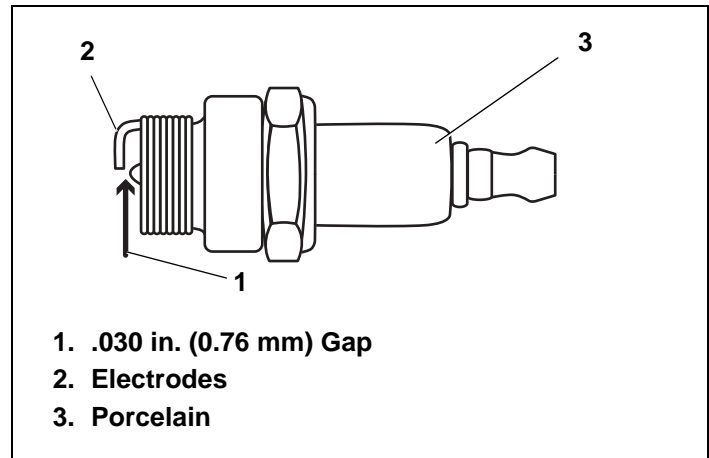

Figure 19. Resistor Spark Plug
4. Check electrode gap with wire feeler gauge and set gap to—.030 in. (0.76 mm) if necessary. See Figure 19.